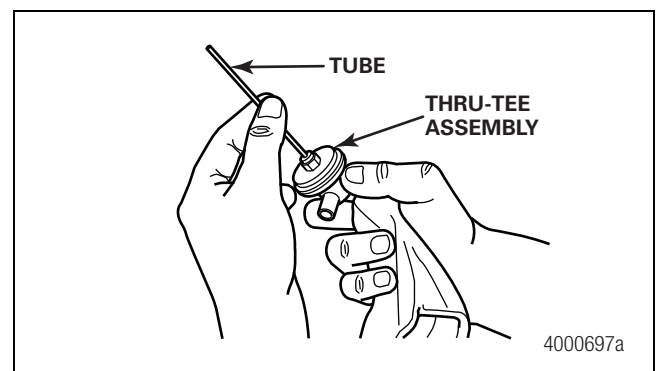

Figure 2.46
3. Use your fingers to check that there is no debris on the tube. Figure 2.46.